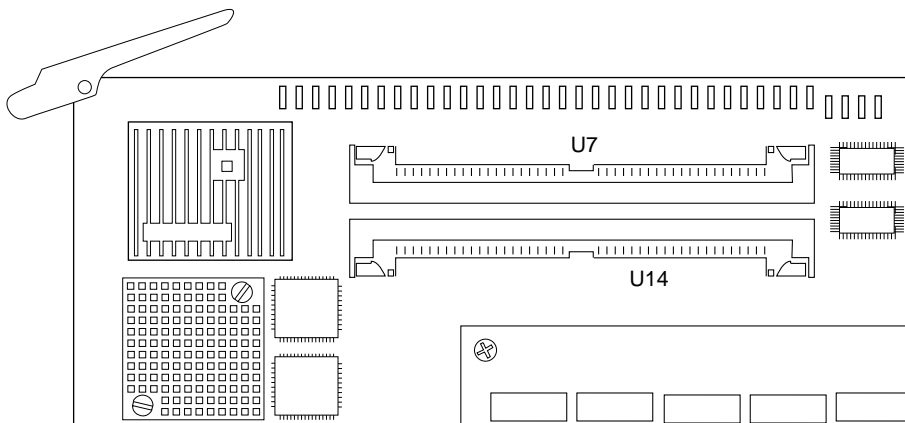

Figure 3. Locating the SIMM Sockets
1. Using Figure 3 as a reference, locate SIMM sockets U7 and U14 on your ARE processor module.